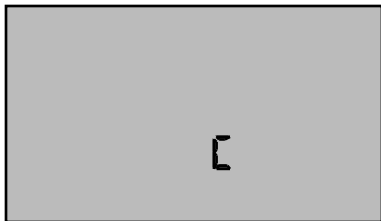

Figure 11
3. Press  repeatedly until you pass the memory "CLF ALL" location. The display will show a "C" or "F" (see Figures 11 & 12).